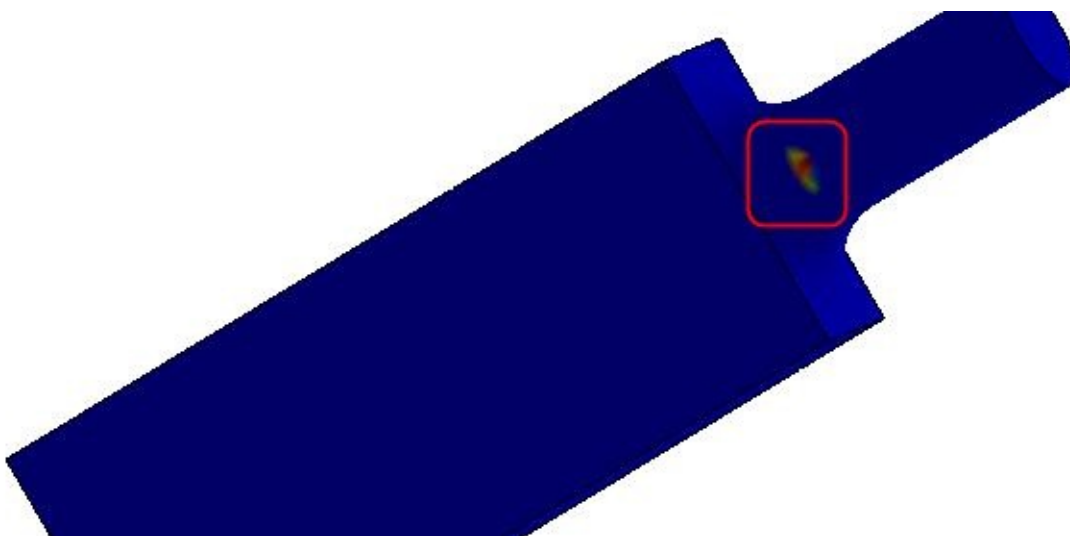

Figure-13. Location in red
- The red location is below the green marked area, so you need to rotate the model; refer to Figure-13.